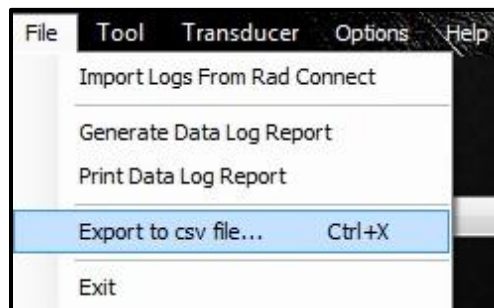

Figure 5.7-1: Export Button
1. In the "File" tab press "**Export to csv file...**" (Figure 5.7-1).